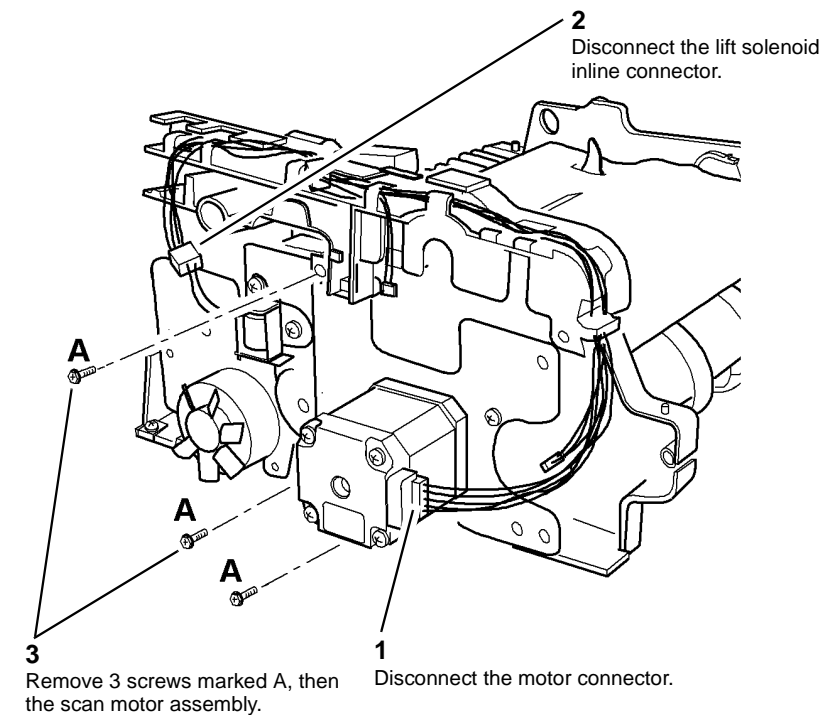

Figure 1 Scan Motor Assembly Removal
6. Remove the DADF scan motor assembly, Figure 1.